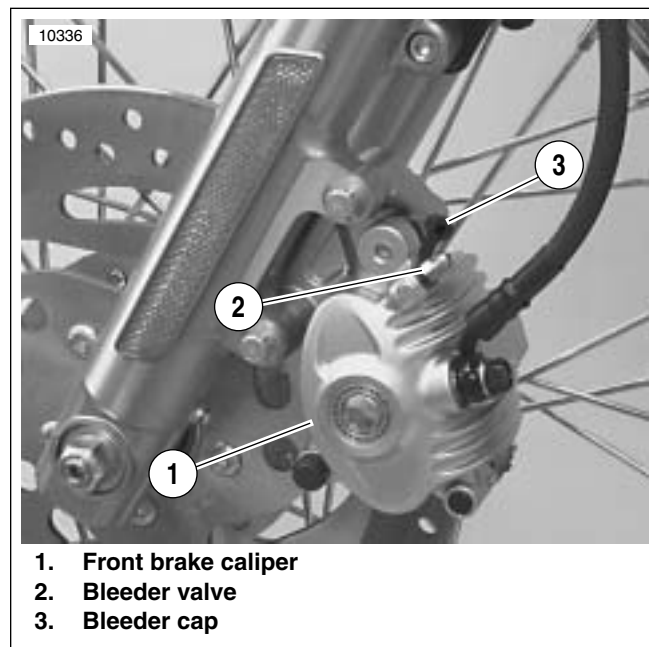

Figure 1-24. Front Brake Caliper
4. See Figure 1-24. Remove bleeder cap (3) from bleeder valve (2) on front caliper (1).
6. Squeeze and hold brake lever to build up hydraulic pressure. See Figure 1-24. Open bleeder valve (2) about 1/2-turn. Brake fluid will flow from bleeder valve through tubing. Observe fluid flowing through tubing. Check for air bubbles.
9. Final tighten bleeder valve to 35-61 **in-lbs** (3.9-6.9 Nm). Remove plastic tubing and install bleeder cap (3).